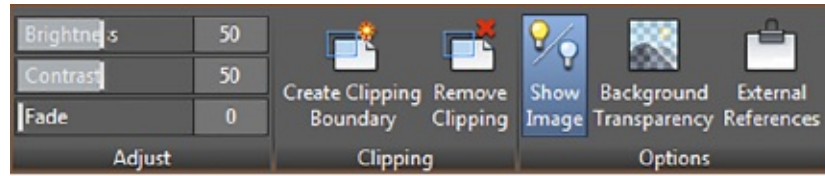

FIGURE 13.4 The Image tab appears when you select a raster image.
1. Click the edge of the raster image. The Image tab appears in the Ribbon (see Figure 13.4).